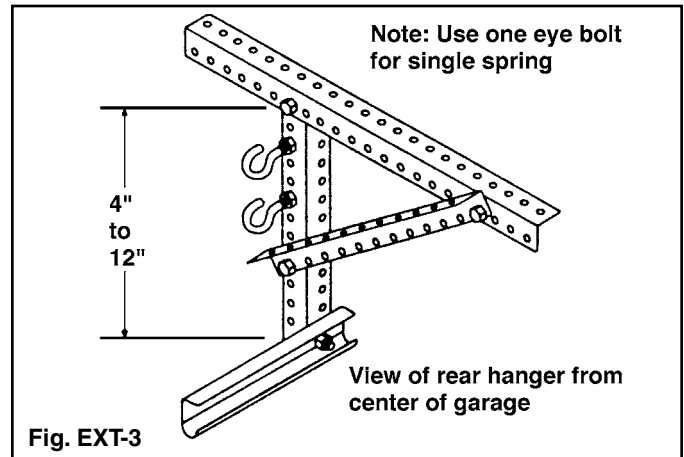

Fig. EXT-3
Step 3: Attach the eye bolts with one 5/16" nut on each side of the rear hanger. The eyebolts should be about 12 inches above the track to keep the spring assembly from dragging on the track. The eyebolts can be as low as 4 inches above the track if you have space problems. Tighten the eyebolt nuts. (FIG. EXT-3)